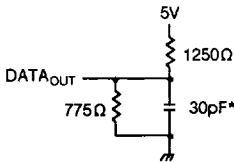

Figure 1. Output Load
Output Load	See Figures 1 & 2
1. Transition is measured $\pm 500\text{mV}$ from low or high impedance voltage with load (Figures 1 and 2).